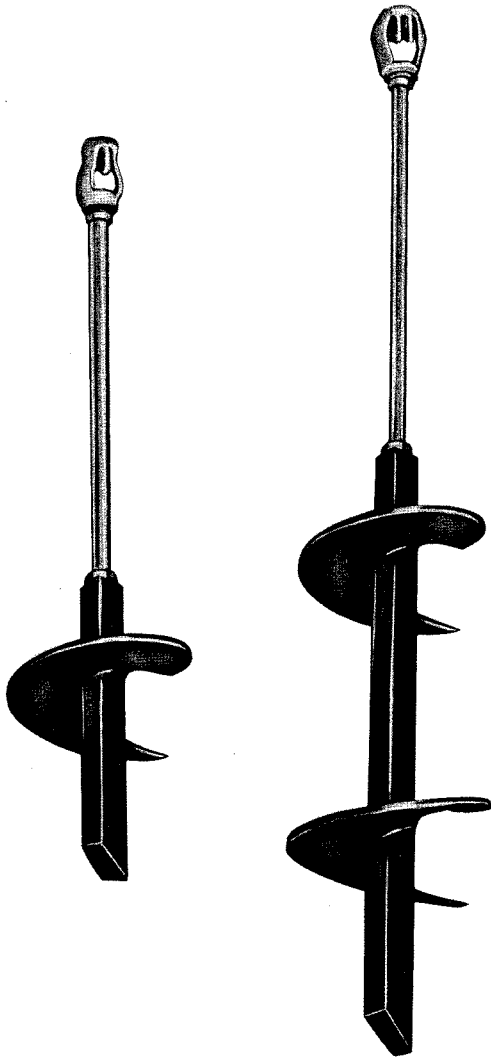

Fig. 1—Single and Twin Helix—C Guy Anchors
2.01 ♦The C guy anchor is a screw-type anchor containing either single or twin helix blades welded to a 1-1/2 inch square hub, a rod with a hexagonal nut and either a double or triple grooved thimble eye nut (Fig. 1). The anchor design provides a maximum installation torque rating of 5500 foot-pounds, except the twin 4 which is rated at 7000 foot-pounds.♦ The anchor type, such as twin 8, denotes the number of helices welded to the hub and the helix diameter.